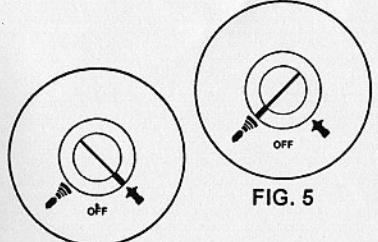

FIG. 5
- Turn switch to () turn on "REMOTE" control function. (Fig. 5)